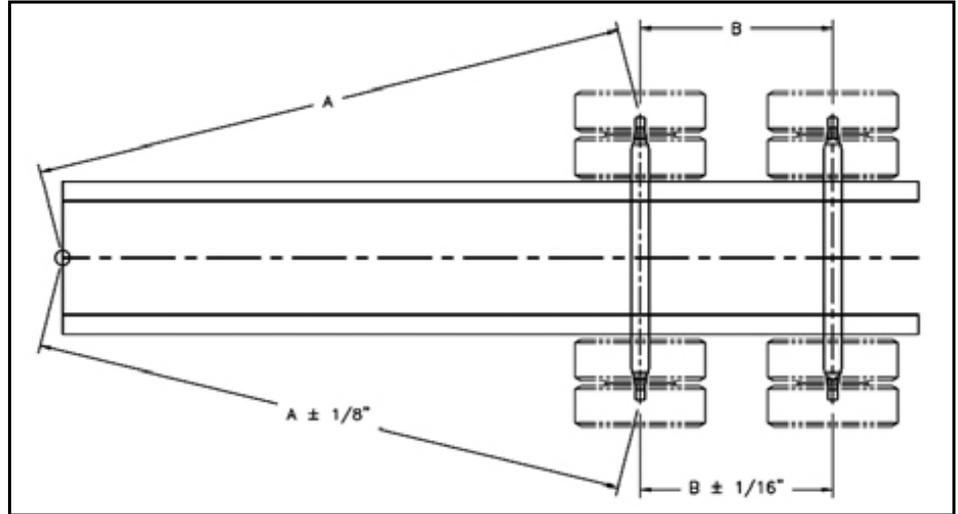

Figure 4
2. Align the forward axle to the center of the kingpin within $\pm 1/8$ " (Figure 4).
4. Align the aft axle(s) to the forward axle to within $\pm 1/16$ " using the same procedure (Figure 4).